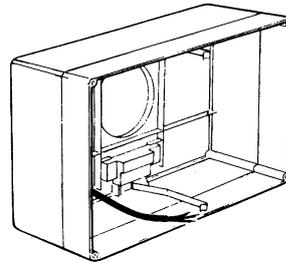

Figure 4. Cable entry.
5. Fit the fan module to the base, matching the plug to the internal socket. Ensure that the pull cord is passed through the case, (Figure 4) then secure via spring clips.